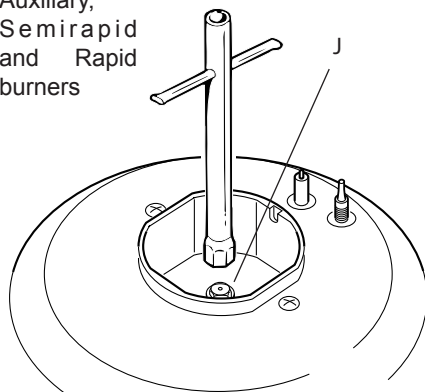

Fig. 8.8
- Using a wrench, substitute the nozzle injectors "J" (figs. 8.8, 8.9) with those most suitable for the kind of gas for which it is to be used.